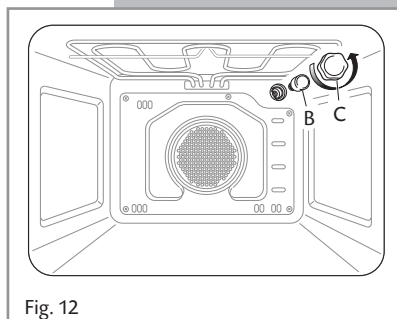

Fig. 12
- Unscrew the protective cover C (fig. 12);